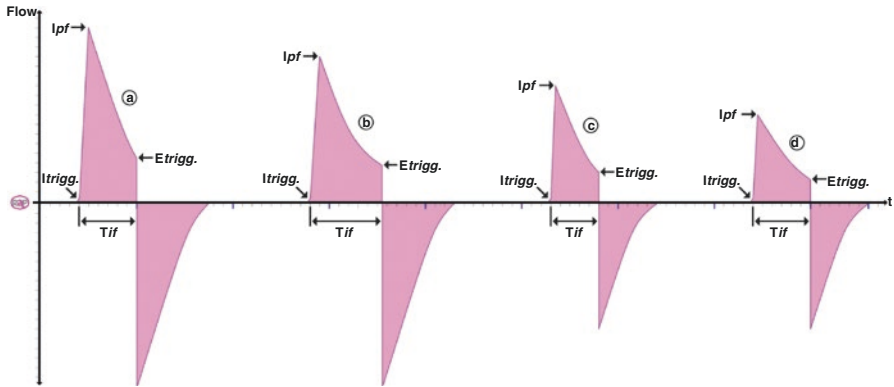

Fig. 3.23 Example of pressure support breath with patient deep breath effort
- (c) Patient inhales fast but shallow, then peak inspiratory flow I_{pf} is lower because breathing is shallow and inspiratory flow time T_{if} is shorter (see Fig. 3.23).